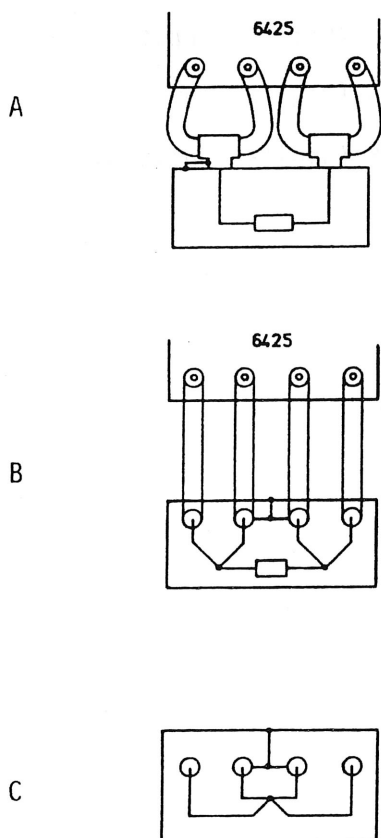

Fig. 4.2 Screened Standards
4.10 Standards Screened, 4-terminal Standards terminated in four BNC connectors. See Fig. 4.2 for details of wiring. Screens isolated from Ground.
Notes on Standards (see Fig. 4.2)